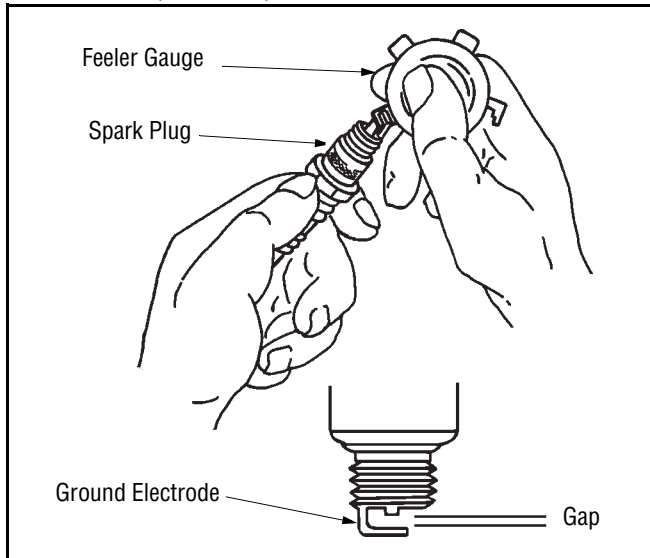

Figure 20
8. Check the gap using a feeler gauge and adjust, if necessary, by carefully bending the ground electrode. See Figure 20. Set the spark plug gap to 0.030 in (0.76 mm).